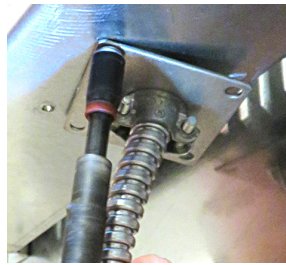

Figure 5
7. Attach the conduit plate to the bottom of the basket lift assembly using 4 supplied screws (see Figure 5).